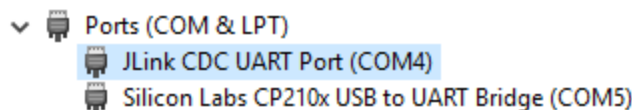

Figure 6. RSL10 EVB COM Port Number
5. Use the Windows Device Manager to find out the COM port number assigned to your RSL10 EVB, identified by the JLink CDC UART Port (COM4, as seen in the figure "RSL10 EVB COM Port Number" (Figure 6)):